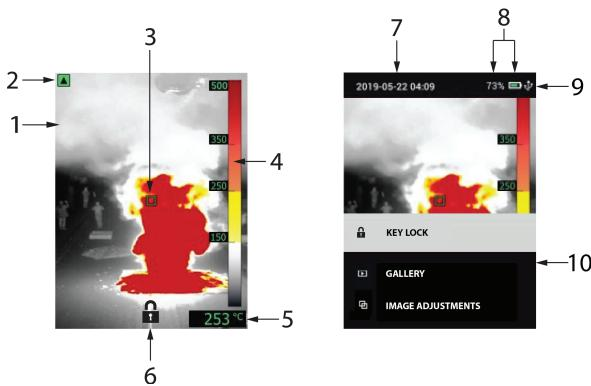

Figure 4.2 K1 Display Description
4. Temperature Scale: Set the sensitivity (gain) to LOW, HIGH, or AUTO. With the sensitivity set to LOW, the temperature range is 14 ~ 752°F (-10 ~ 400°C) and the low sensitivity range indicator appears (upper left of display), see **Figure 4.2, Display Description**. With the sensitivity set to HIGH the temperature range is 14 ~ 284°F (-10 ~ 140°C) and the low sensitivity range indicator switches OFF. Set to AUTO to have the camera decide which range is most suitable for any given image.